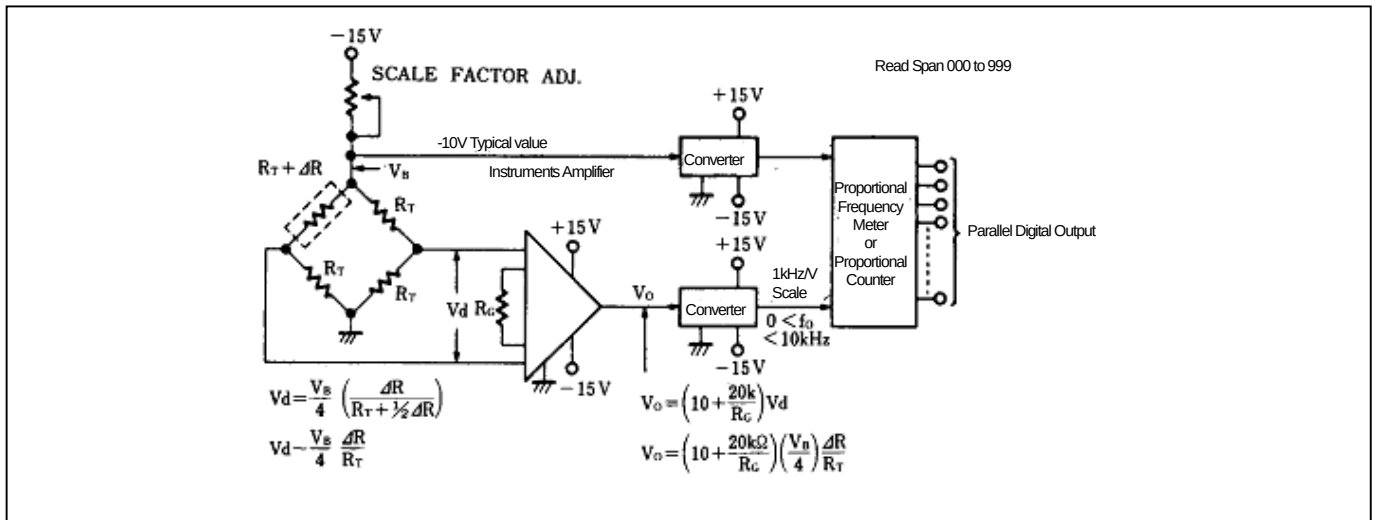

Figure 12. Proportional meter system
The accuracy of the systems is better on used proportional method, for measurement equipment. Use the NJM4151, Figure 12 shows the proportion by weight measurement system. First, the strain gauge bridge circuit, and the cells of weight detecting detect the weight. Then generates a difference voltage. The Difference voltage (VD) for the converting bridge approximated $VB\Delta R / RT$ in a small range of resistance changes of strain - gauge. Necessary information is $\Delta R / RT$ and the voltage (VB) across the bridge must be stable. Instrumentation - amplifier amplify the low input differential voltage (VD). It is used to eliminate the common mode input voltage. The voltage across the bridge (VB) converted to frequency (fB). Then, the output voltage amplitude (V0) converted to frequency (f0). Hereby, ADC is designed for proportional meter. The voltage across the bridge converter is 1Hz / V. Amplifier voltage converter is 1kHz / V conversion factor. Proportional counter and frequency meter type of proportional will be used to convert frequency ratio $f0/fB$. The first advantage of conversion technology by the proportional method is that it is independent of the voltage across the bridge. Frequency (fB) is proportional to the bridge voltage (VB). Output frequency (f0) is proportional to the VB. $f0/fB$ is independent of VB, only proportional to $\Delta R / RT$.